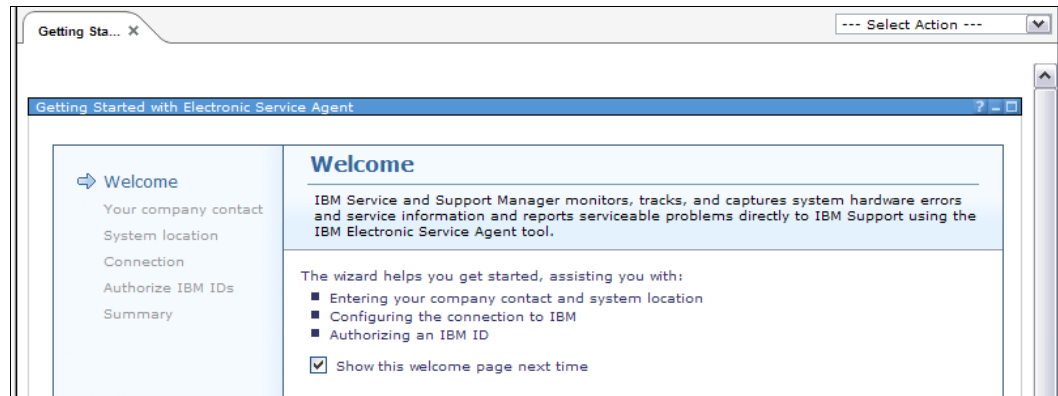

Figure 13-46 Getting Started with Electronic Service Agent welcome panel
1. You can set up and enable the Electronic Service Agent from the Additional Setup tab of the IBM Flex System Manager home page, Getting started with the Electronic Service Agent welcome panel, as shown in Figure 13-46.